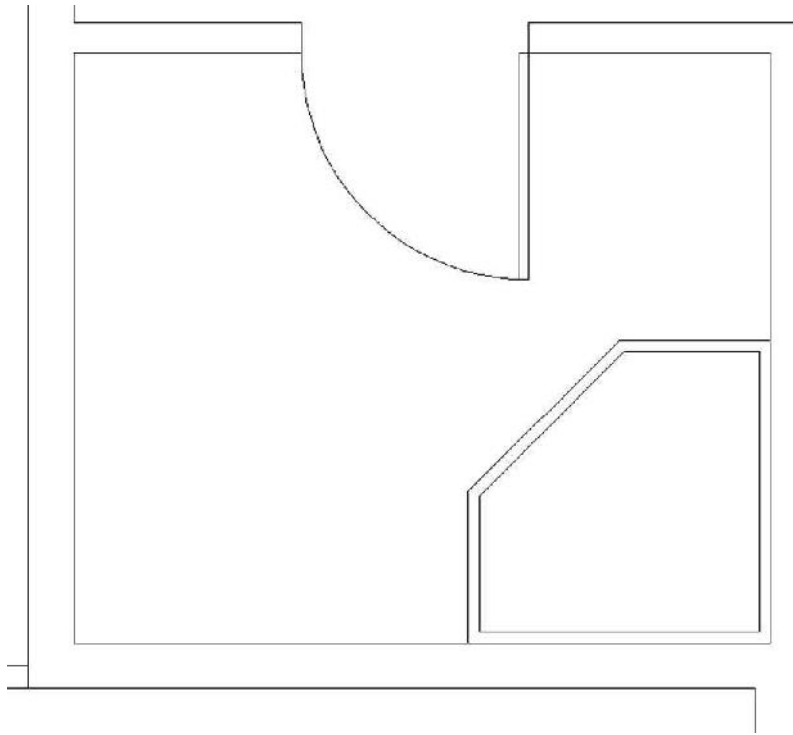

FIGURE 5.63: The offset shower polyline
10. Offset the shower polyline inward 1.5" (38 mm), as shown in Figure 5.63.